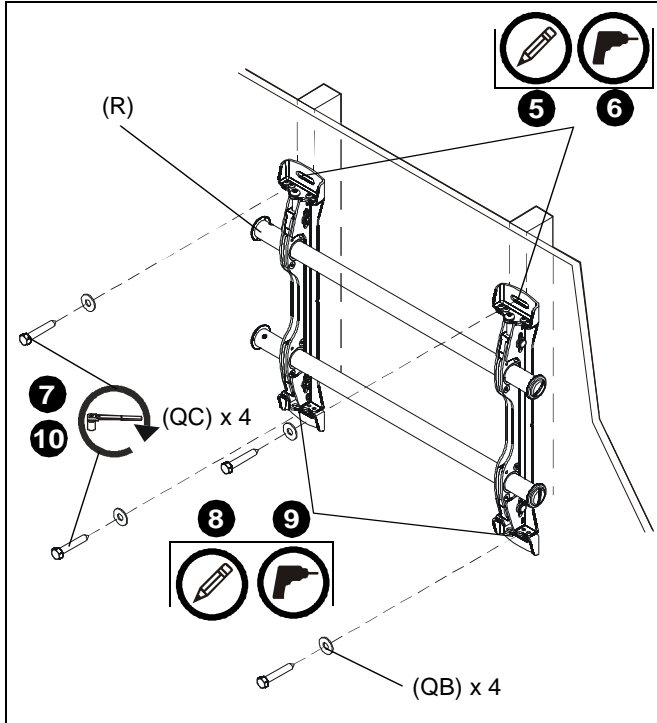

Figure 3
5. Using a level, mark the wall on each stud to attach the mount through the upper mounting slots. (See Figure 3)
6. Drill one 7/32" pilot hole in each stud. (See Figure 3)
7. Use two 5/16 x 2-1/2" lag bolts (QC) and two 5/16" flat washers (QB) to attach top of mount (R) to wall. (See Figure 3)
8. Mark the attachment points for the lower mounting slots, making sure the attachment points are located on the studs. (See Figure 3)
9. Drill 7/32" pilot holes at markings for lower mounting holes. (See Figure 3)
10. Use two 5/16 x 2-1/2" lag bolts (QC) and two 5/16" flat washers (QB) to attach the mount to the wall through the lower mounting holes. (See Figure 3)